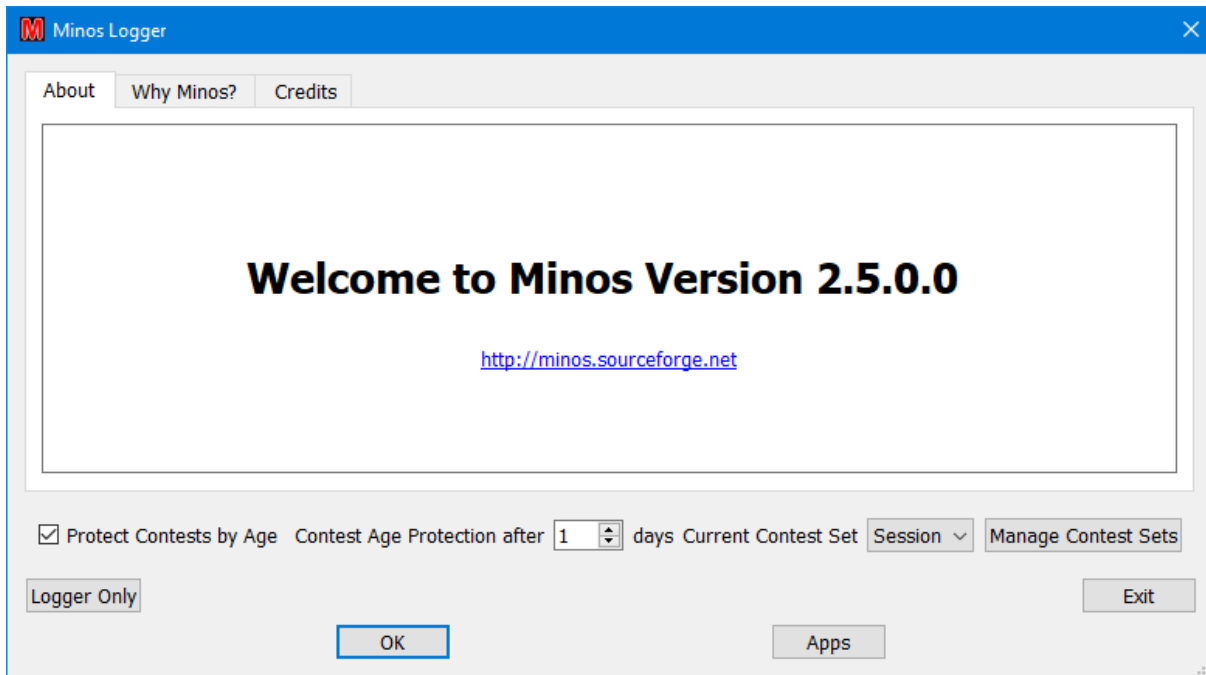

Figure 11 – Welcome screen
- Automatically, after the number of days specified in the ‘**Contest Age Protection after**’ field on the Welcome screen (see Figure 11) have passed since the end of the contest. If the contest has been age protected then both the ‘**Protected**’ and ‘**Age Protected**’ boxes (Figure 17) are set.